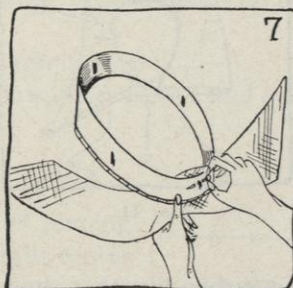

FIG. 7.
- c. Pin the center of the other bias edge inside of the direct front of the wired edge of the headsize band (see Figure 7).